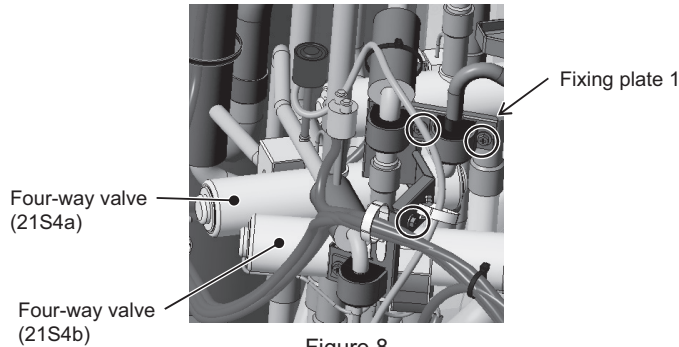

Figure 8
- (1) Remove the front heat exchanger. Refer to 8-12-8 Maintenance Procedures for the Heat Exchanger for details.
- (2) Remove the top, front, and right compressor covers. Refer to 8-12-4 Compressor Replacement Procedure for details.
- (3) Remove the fixing plate 1 above four-way valve (21S4b), saddle, and rubber spacer by unscrewing the three screws shown in Figure 8.